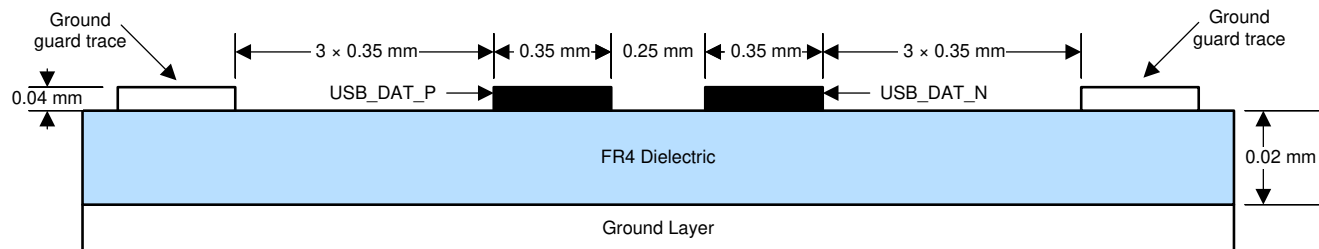

图 9-13. USB Layout Example
- (1) If using the minimum trace width and spacing to escape the Controller ball field, widening these out after escape is desirable if practical to achieve the target 100  $\Omega$  impedance (e.g. to reduce transmission line losses).
- (2) One pcb layout example for the differential pair is shown in 图 9-13